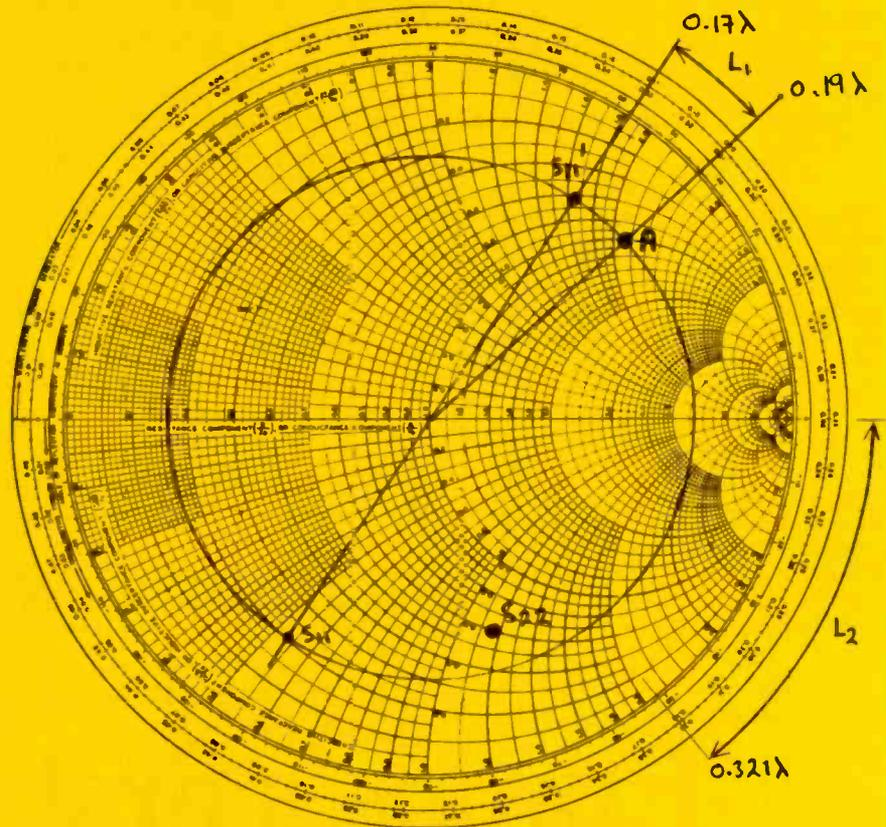

Fig.7. Calculation of a stub matching network. Reflection coefficients of the fet are used to find the required wavelengths.
The input and output reflection coefficients (S_{11} and S_{22}) may be found listed on the device data sheet. These are first plotted onto a Smith chart (see Fig.7) and the following processes are executed:
4. Move around the constant v.s.w.r. circle to its nearest intersection with the unity conductance line (point A on Fig.7). Draw a radial line through this point to intersect the outer wavelengths circle and read off the value indicated. In this case 0.19 wavelengths. The difference between these values is the length of the line required in position L_1 , ie 0.02 wavelengths.